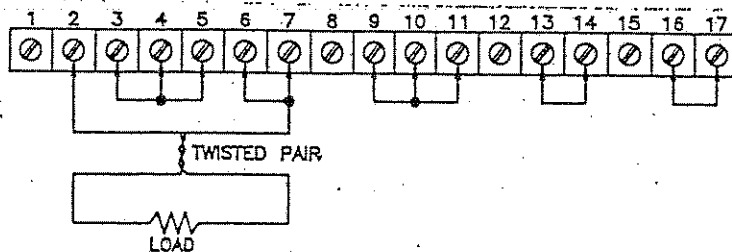

Figure 2. Remote Sensing
3.3.2 REMOTE SENSING (Figure 2)